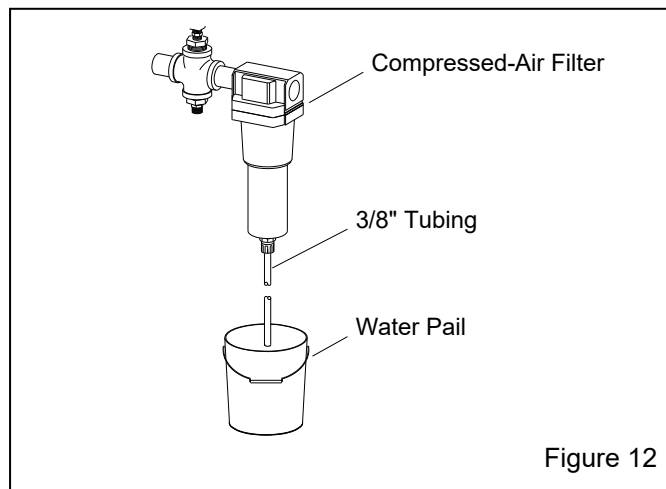

Figure 12
2.14.1 Insert a short length of 3/8" tubing into the automatic drain at the bottom of the compressed-air filter, as shown in Figure 12 and place the other end into